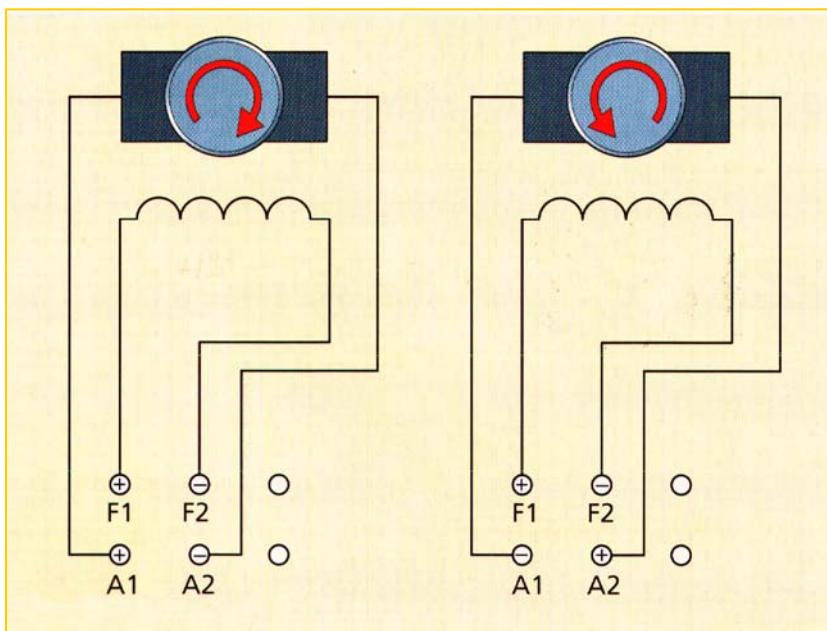

Fig.8.2 Ls motor connection diagram with direction of rotation
- Study the connections of the DC motor in figure 8.2. **F** is for field winding and **A** for armature winding.
The armature winding is connected to A1 and A2. Changing the two poles can change the direction of rotation. See Fig.8.2
The field winding is connected to F1 and F2. Changing the two poles can change the direction of rotation. See Fig.8.2